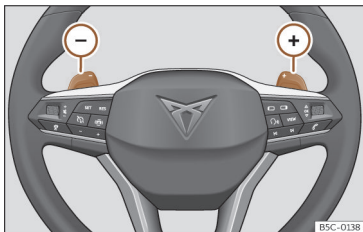

Fig. 117 Steering wheel: automatic gearbox levers
- Press the  gear shift paddle to change up a gear >>> **Fig. 117**.